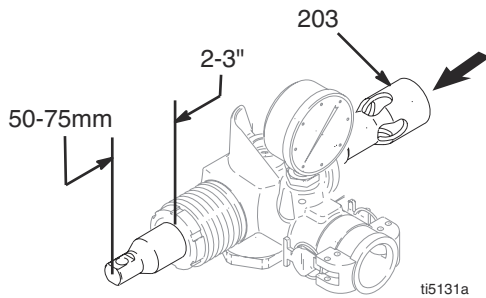

FIG. 17
1. Fig. 17. Push piston rod (203) out of pump (31) 50 to 75 mm (2 to 3 inches).
2. Fig. 17. Install packing nut (216). Hand tighten and then tap screw driver. Push piston rod (203) into outlet housing (202) and extending 50-75mm out of outlet housing.